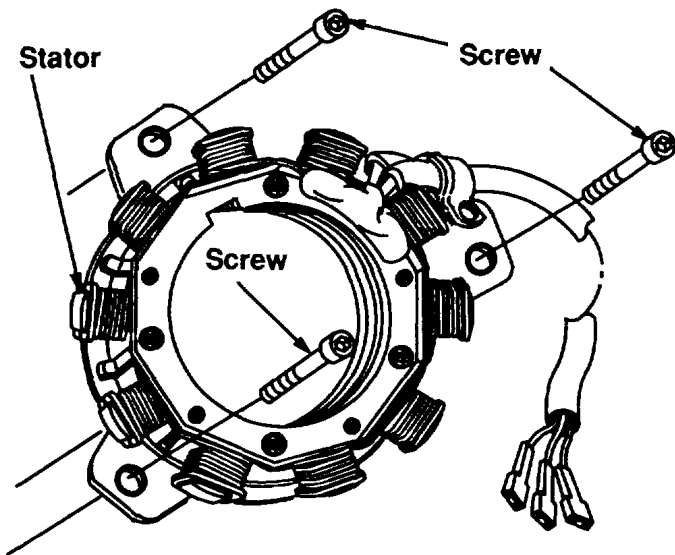

Figure 7-16. Stator Retaining Screws
6. Remove three Allen screws and stator assembly from engine front cover, Fig. 7-16.